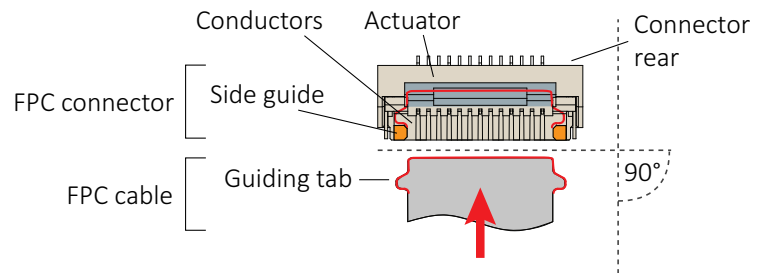
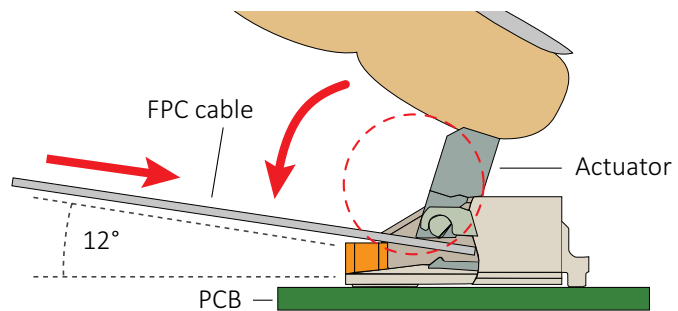

Figure 14: FPC cable and FPC connector
Figure 15: Engaging the FPC cable in the FPC connector
2. **Ensuring proper cable orientation between devices to be connected**, take the FPC cable with conductors facing the FPC connector conductors (see Figure 14 on page 40).
At a horizontal angle of 90° to the connector's rear (see Figure 14) and at a vertical angle of 12° to the PCB (see Figure 15), slowly insert the FPC cable into the actuator...
4. ...until cable guiding tabs are caught between connector rear and side guides (see Figure 14). Pull the cable slightly to ensure guiding tabs are properly engaged.
5. Holding the FPC cable in position, flap down the actuator to closed position (see Figure 15).